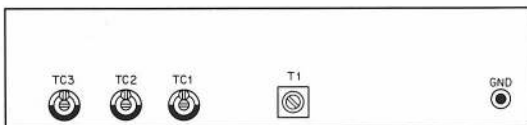
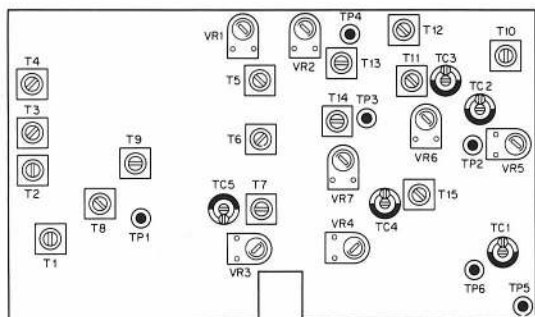
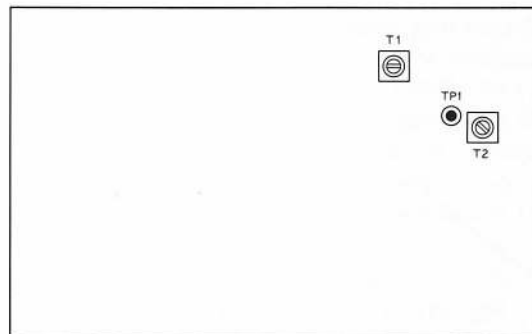

Fig. 21 CAR unit
Fig. 24 IF unit
Fig. 25 RF unit
- 1) Connect RF VTVM to TP5 in IF unit (X48-1150-00) and adjust oscillation coil T1 in CAR-1 unit (X50-1310-00) until the meter reads 50mV (refer to Fig. 21). (refer to Fig. 24 IF unit)
- 2) Adjust T1 to T7 in IF unit (X48-1150-00) and T2 in RF unit (X44-1150-00) until S meter reads maximum value (refer to Fig. 24 and Fig. 25).
- 2) Turn the RF GAIN knob fully counterclockwise and adjust VR3 and TC5 in IF unit (X48-1150-00) alternately until the output becomes minimum (refer to Fig. 24).
- 1) After receiving marker signal and turning ON NB switch, adjust T8 and T9 until the terminal voltage at TP1 on IF unit (X48-1150-00) becomes minimum (refer to Fig. 24).
- 1) After adjusting each section until sensitivity becomes maximum, adjust VR1 in IF unit (X48-1150-00) under no signal condition, thus making zero point adjustment of S meter (refer to Fig. 24).